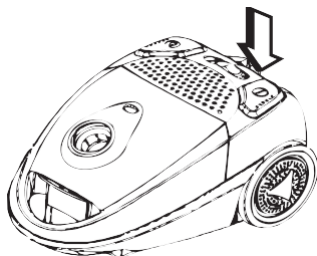

Figure 6
6. Put the plug in the wall socket, and press the On/Off switch. To switch off the appliance, press the On/Off switch again, see Figure 6.